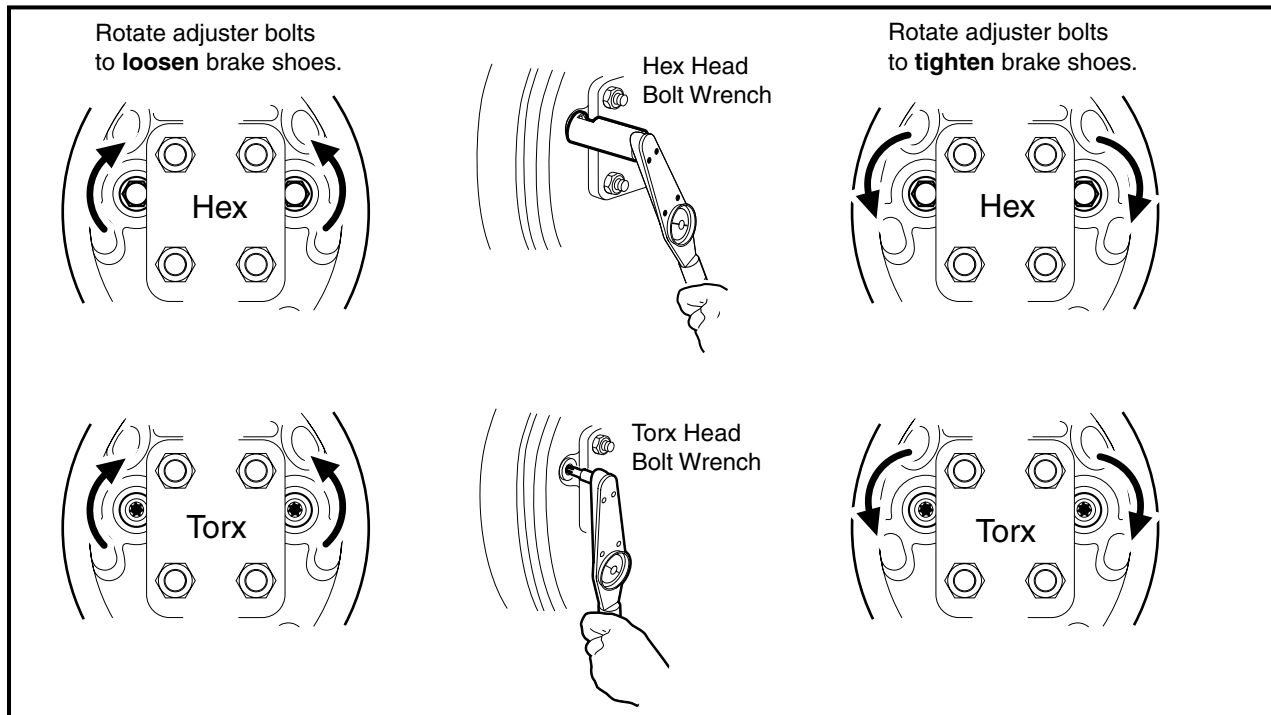

Figure 6b-16 Loosen or Tighten Brake Adjusters
13. Install the castle nut (3) onto the spindle finger-tight.
14. Rotate the brake drum slowly while gently tightening the castle nut (3) until the drum hub and bearings are properly seated.
15. Tighten the castle nut (3) to 10 ft-lb (13.6 N-m) in order to fully seat the bearing and cup.
17. Install a new cotter pin (2), bending the split ends of the pin to secure the castle nut. **See following WARNING, CAUTION, and NOTE.**
18. Install the dust cover (1) (**Figure 6b-4, Page 6b-9**).
19. With the brake drum properly seated and secured, use a torque wrench with a Torx #T-27 driver, or hydraulic brake adjuster (CCI P/N 102169401), and gently adjust the clearance between the brake shoe lining and brake drum by turning each of the two adjuster bolt heads on the back of the brake cluster plate as shown (**Figure 6b-16, Page 6b-19**). **See following CAUTION.**
- **Do not apply more than 65 in-lb (7.3 N-m) of torque to any of the adjuster bolts. Over-tightening the adjuster bolts could result in damage to the brake cluster components or the separation of the bolt (4) from the adjuster (3) (**Figure 6b-3, Page 6b-4** or **Figure 6b-21, Page 6b-25**).**
20. Install the wheel and finger-tighten the lug nuts (21) (**Figure 6b-3, Page 6b-4**).
1. Place the brake drum (15) onto the axle hub and brake cluster (**Figure 6b-21, Page 6b-25**).
2. Using a torque wrench with a Torx #T-27 driver, or hydraulic brake adjuster (CCI P/N 102169401), gently rotate the adjuster bolts to increase the clearance between the brake shoe lining and the brake drum (**Figure 6b-16, Page 6b-19**). **See following NOTE.**